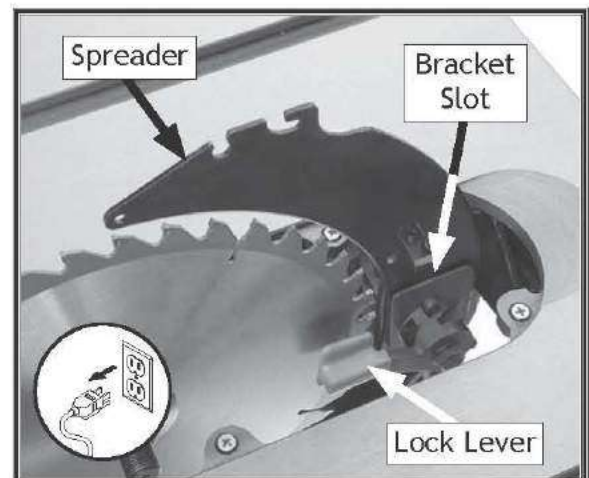

Figure 47. Lock lever used to secure spreader/riving knife.
4. Insert lower set of holes on spreader/riving knife into bracket slot, and tighten lock lever to secure spreader (see **Figure 47**).